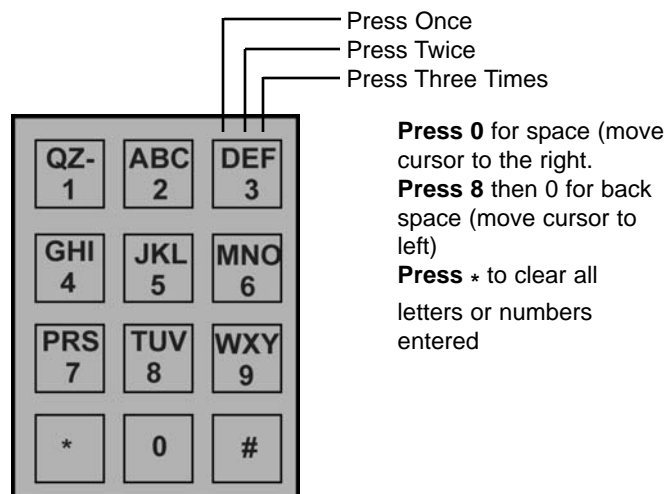

FIGURE 3.1
- Step 3** Enter 16 -characters on the first segment by rewriting the existing message or pressing * to clear the segment and reenter the message, see keypad correlation on figure 3.1, press # on every character you have entered and press ## after the last character you have entered on each segment, then the display shows
<p style="text-align: center;">20</p> <p style="text-align: center;">NEW TENANT CODE</p> <p>consists of tenant code, name and phone number</p> <ul style="list-style-type: none"> • Tenant Code (directory code) must be a unique number. You may use the apartment number, unit number , etc. • The directory code can be 2, 3 or 4 digit. See Function Code 28 to set Directory Digit. • ALL the field must be programmed. • Name up to 12 characters. • Phone number up to 11-digit. 	<p>Step 1 Log on to programming mode (see section 3.1). The display shows</p> <div style="border: 1px solid black; padding: 2px; text-align: center;"> SELECT PROGRAM ENTER: __ PRESS # </div> <p>Step 2 Enter Function Code 20 then press # and the display shows</p> <div style="border: 1px solid black; padding: 2px; text-align: center;"> NEW TENANT CODE ENTER: ___ PRESS # </div> <p>Step 3 Enter a new tenant code then press # (if the directory is already in used, the display shows TENANT EXIST), the display shows</p> <div style="border: 1px solid black; padding: 2px; text-align: center;"> TENANT NAME _____ </div> <p>Step 4 Enter a tenant name up to 12 characters then press # after entering each character and press ## after entering the last character (see figure 3.1 for keypad correlation), the display shows</p> <div style="border: 1px solid black; padding: 2px; text-align: center;"> TELEPHONE NUMBER _____ </div> <p>Step 5 Enter a telephone number up to 11-digit then press enter, the display shows</p> <div style="border: 1px solid black; padding: 2px; text-align: center;"> SELECT PROGRAM ENTER: __ PRESS # </div> <p>Step 6 Select another Function Code to program different field from the table or press * to exit the programming mode.</p>
<p style="text-align: center;">21</p> <p style="text-align: center;">MODIFY TENANT CODE</p> <ul style="list-style-type: none"> • To modify, you must know the tenant code (directory code) that you assigned on function code 20. • If you do not know use Function Code 78 to find the tenant code. <p>NOTE: Function Code 78 cannot be used if you program a tenant with NO NAME on Function Code 20.</p>	<p>Step 1 Log on to programming mode (see section 3.1). The display shows</p> <div style="border: 1px solid black; padding: 2px; text-align: center;"> SELECT PROGRAM ENTER: __ PRESS # </div> <p>Step 2 Enter Function Code 21 then press # and the display shows</p> <div style="border: 1px solid black; padding: 2px; text-align: center;"> MODIFY TENANT ENTER: ___ PRESS # </div> <p>Step 3 Enter the tenant code to be modified then press # (if the tenant code does not exist, the display shows TENANT NOT EXIST and proceed to step 4), the display shows</p> <div style="border: 1px solid black; padding: 2px; text-align: center;"> TENANT NAME _____ </div> <p>Step 4 Enter a new tenant name (press * to clear the existing one) up to 12 characters then press # after entering each character and press ## after entering the last character (see figure 3.1 for keypad correlation), the display shows</p> <div style="border: 1px solid black; padding: 2px; text-align: center;"> TELEPHONE NUMBER _____ </div> <p>Step 5 Enter a telephone number up to 11-digit then press enter, the display shows</p>